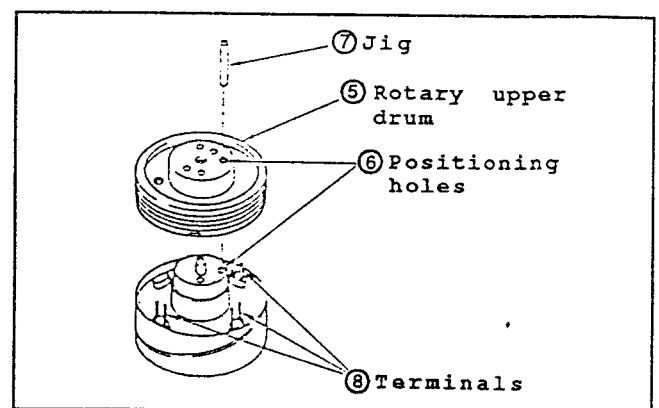

Fig.II-29
- (1) Clean the flange surface and the rotary upper drum (5) surface which faced the flange surface. Check that there is no dust particles and flaws.
- (2) Insert the jig (7) into the drum positioning holes of upper/lower rotary drum. (Fig.II-29)